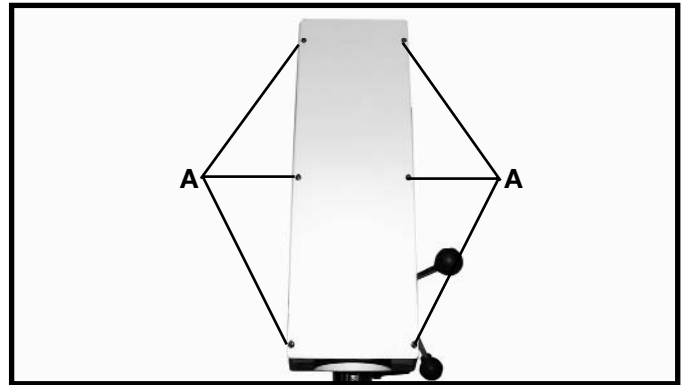

Fig. 30
1. Remove the six screws (A) Fig. 30 that hold the top cover in place, and remove the top cover.